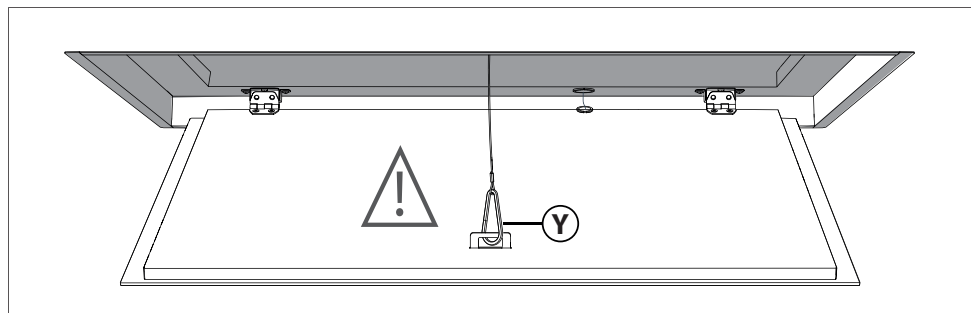

Fig.12
- The safety carabiner **Y** must always be inserted in its slot when the panel is closed (Fig. 12).